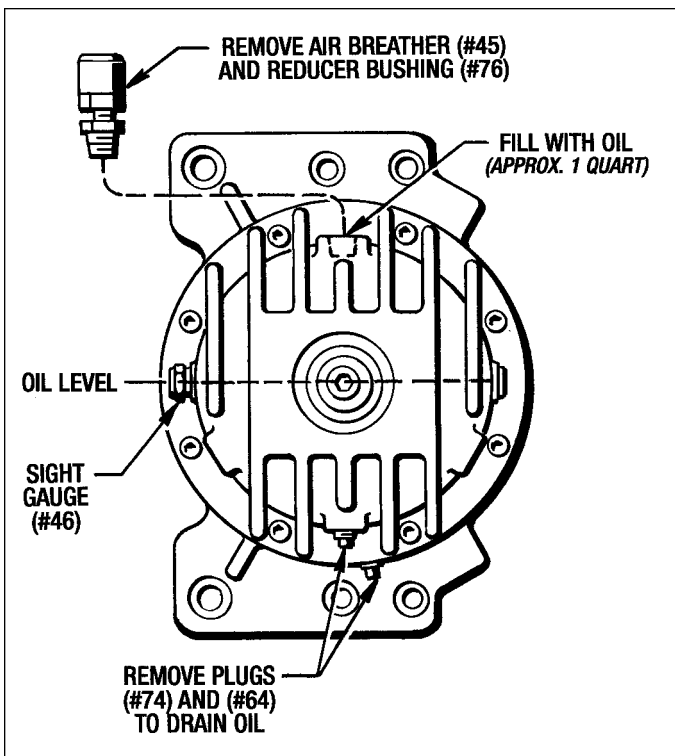

Figure 4.1 - Lubrication - Horizontal Brake (MB-210-494)
1. Horizontal Brake (MB-210-494) - *Figure 4.1*
(See *Figure 4.1*)
2. Remove the Air Breather (#45) and the Reducer Bushing (#76) and fill the brake with fresh oil to the correct level as shown in *Figure 4.1*. Fluid capacity is approx. 1 Quart.